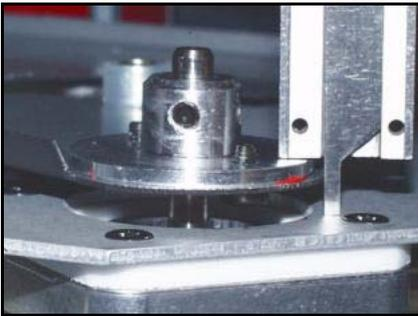

Fig. 57 Bottom blade spacing: 7 mm
- 6 Install a dimmer blade on the bottom motor with a distance of 7 mm from the module plate to the outside face of the shaft adaptor (Fig. 57). Slightly tighten a set screw to hold the position.